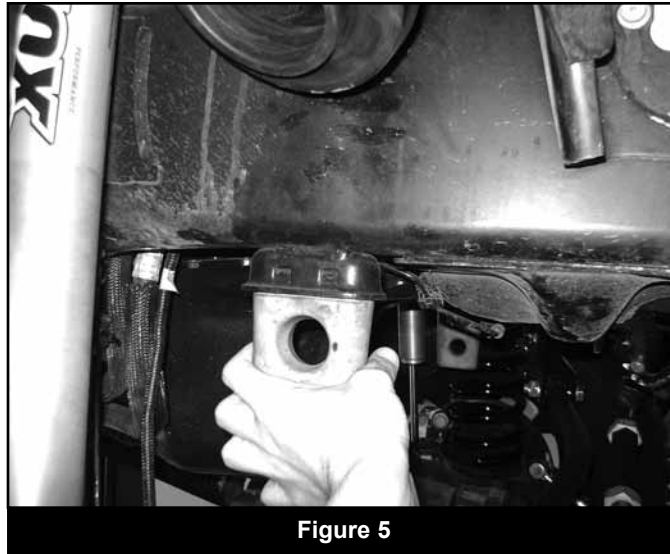

Figure 5
19. Lower vehicle to the ground, and ensure that the bump stops are fully seated. (Fig 5)